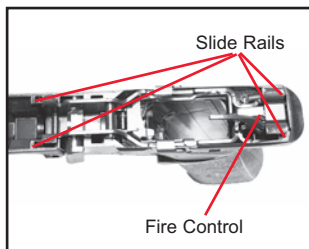

Figure 27
5. Apply a light coating of oil to the inside of the Frame Assembly. Include around the Fire Control and Slide Rails. See Figure 27.